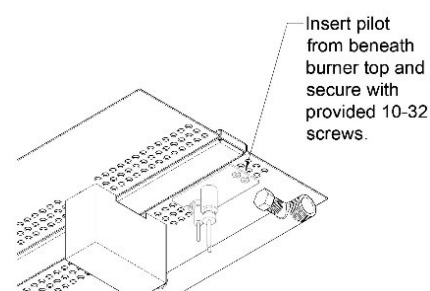

FIGURE 48
- 11) Insert the pilot assembly from underneath the existing burner pan to the area of the removed burner section. **(Figure 48)**